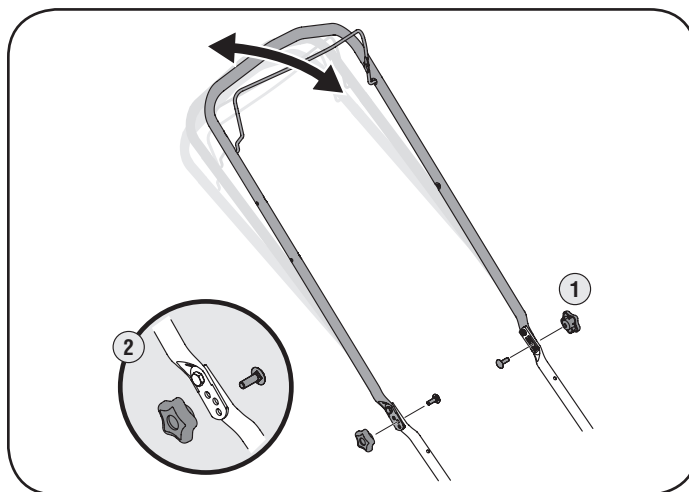

Figure 11
1. Remove wing nuts and carriage bolts from handle. See Figure 11.
2. Position the handle in one of the three positions that is most comfortable. See Figure 11 inset.